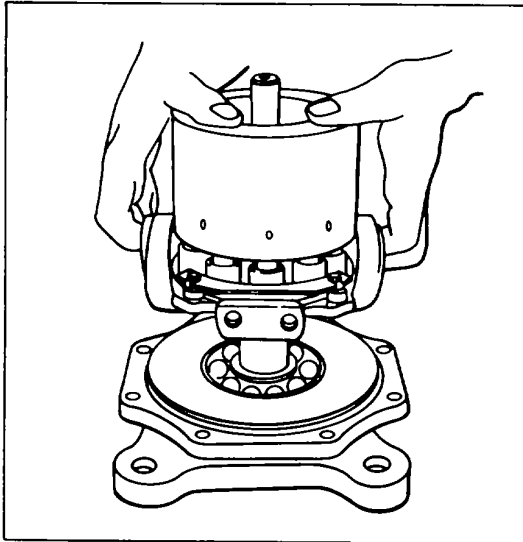
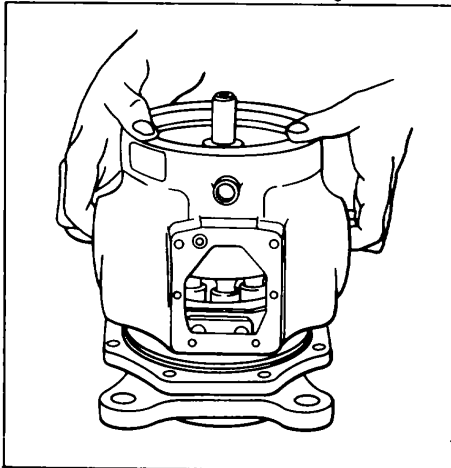

Figure 143.
Figure 144.
18. Lower rotating group consisting of cam, pistons and block assembly over pump shaft (1) and on to mounting flange (2) See Fig. 143) Rotate cam assembly (12) to accept trunnions (17) through holes in the housing (18).
19. Install new O-ring a31 on mounting flange (2). Lower housing (18) carefully over rotating group
and on to flange (2) being carefull not to disturb the assembled, internal parts. See Fig. 144. Install hex nuts (3) and lock washers (4) and torque to 450 in. lbs.